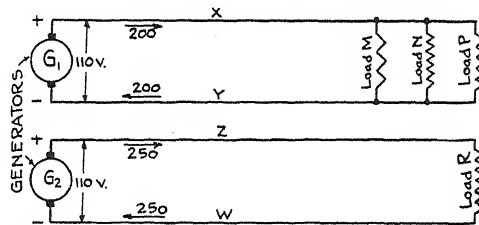

FIG. 118. Two 2-wire power systems, on separate sources.
The usual doorbell circuit, for example, is a two-wire system. Most houses are wired in a two-wire system. Automobiles are usually wired in "two-wire" systems, if we count the frame of the car as one of the two conductors. For later comparison of the two-wire and three-wire circuits, examine Figure 118, which shows two 2-wire power systems, on two separate power sources.
**148. Three-Wire Systems.** Such groups of two-wire circuits can be operated by a method that conserves wire, which is an ingenious scheme developed by Thomas Edison to cut down the cost of his first power distribution system in New York City. The method he used allows us to replace the four wires of Figure 118 (X, Y, Z, W) with only three wires, as shown in